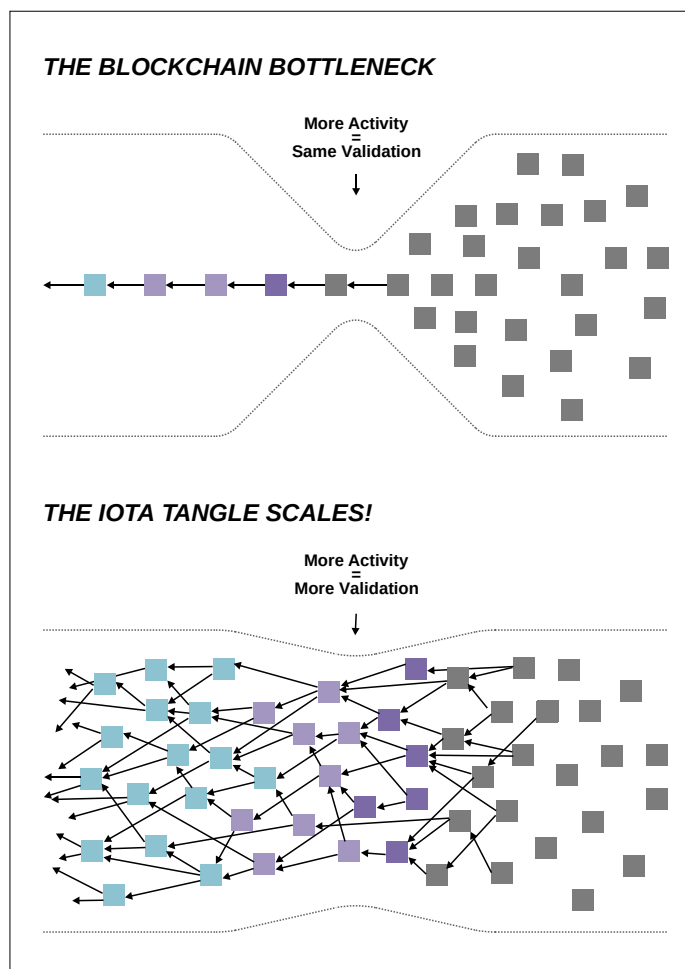

Figure 3. Unlike a blockchain, with the IOTA tangle more activity results in more valid transactions [10].
An even bigger issue is that the priority of integrating transactions into blocks is controlled by the fees received by the miners. It is therefore in the miners' own interest to give precedence to 'more important' transactions. That became very clear in the most recent Bitcoin hype in late 2017, when people had to pay fees of about \$50 to get their transactions permanently recorded in the blockchain (**Figure 3**).
- [10] Figure 3 image source: <https://blog.iota.org/on-the-tangle-white-papers-proofs-airplanes-and-local-modifiers-44683aff8fea>